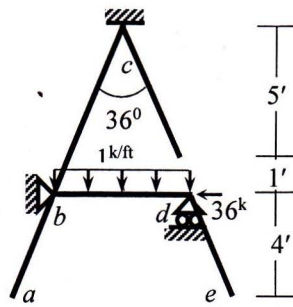

Fig. 7
- Use Stiffness Method to calculate unknown rotations at *b* and *d* (considering flexural deformations and geometric nonlinearity) of the frame *abcde* loaded as shown in **Fig. 7** [Given: $EI = 40 \times 10^3$ k-ft²].